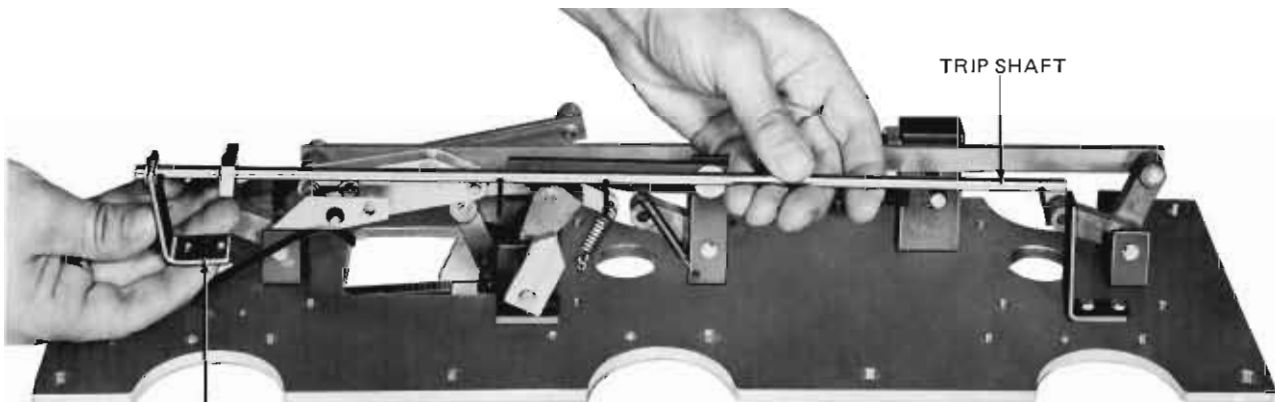

Figure 18
4. Remove two round-head screws to release one trip shaft bracket. Lift out trip shaft as shown in Figure 18. Drive out short roll pin in end of trip bar to release trip shaft bracket. Note that a brass washer is present on either side of the bracket.